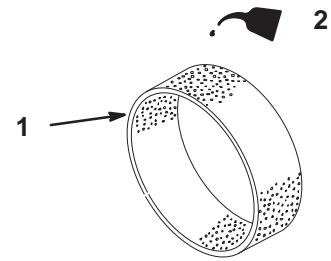

Figure 30
4. Put one or two ounces of oil on the element (Fig. 30).